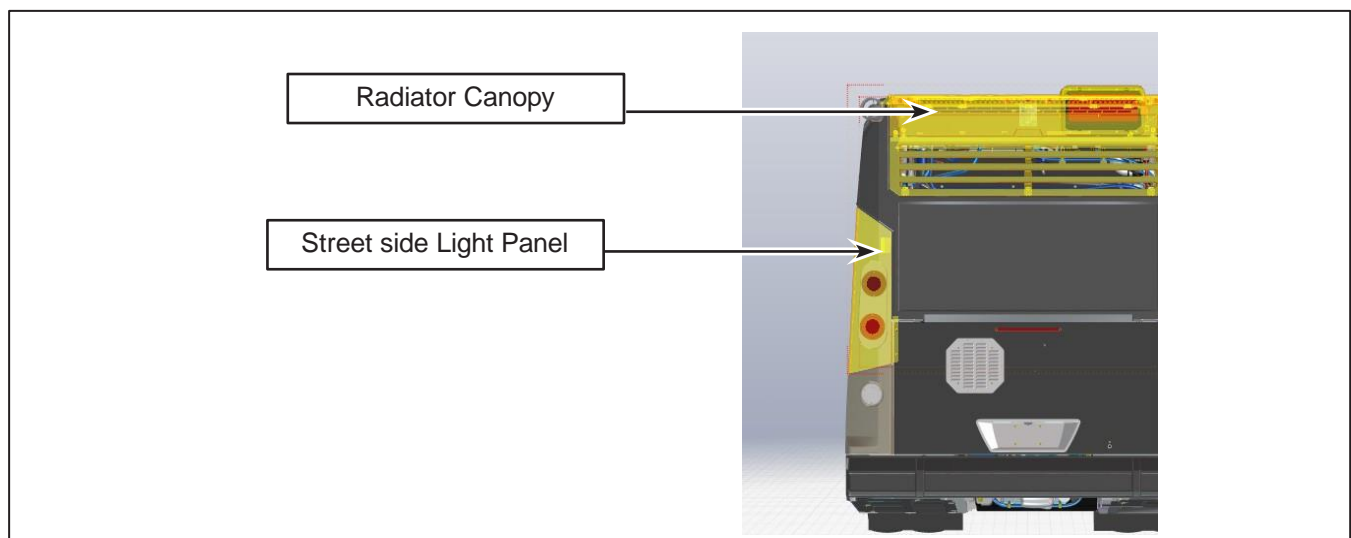

Figure 1 - Radiator Canopy and Street Side Light Panel
- 1.4. Open the radiator canopy. See Figure 1.
- 1.5. Remove the street side light panel. See Figure 1.